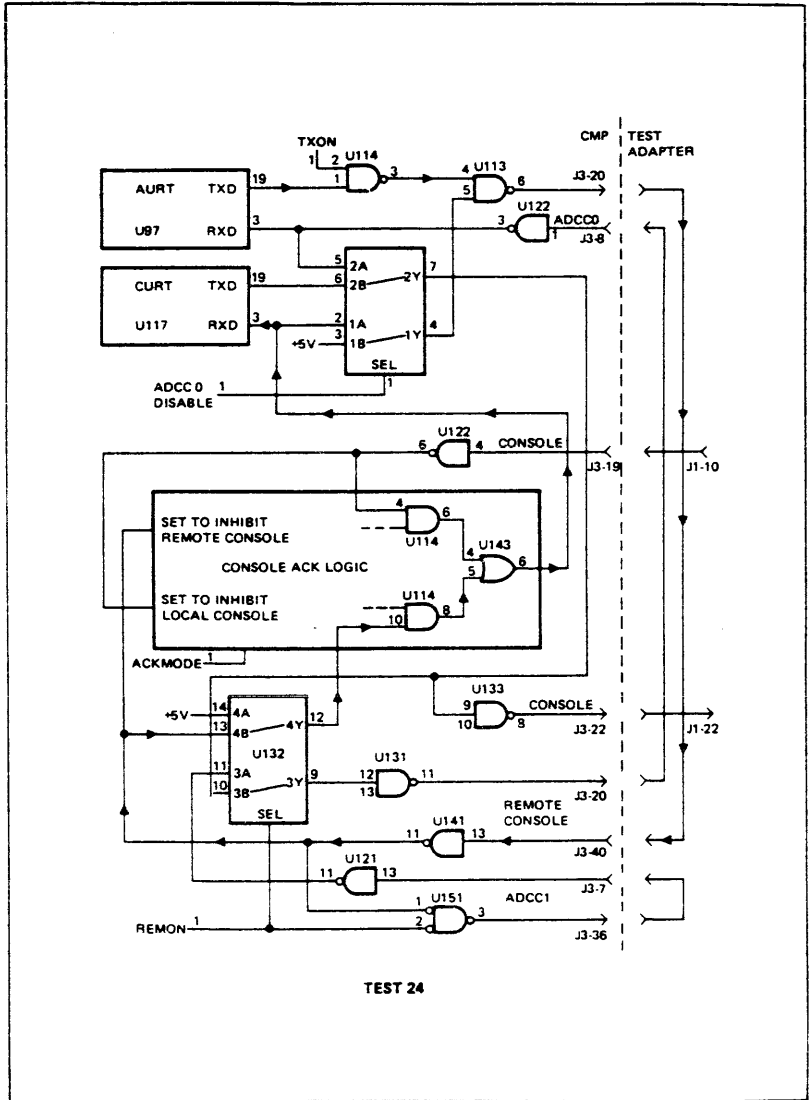

Figure 3-13. Data Comm Test Step 24
- 24 The ability of the CURT to receive Remote Console data is tested after the ACK circuitry has been set up by step 23. (See figure 3-13.)